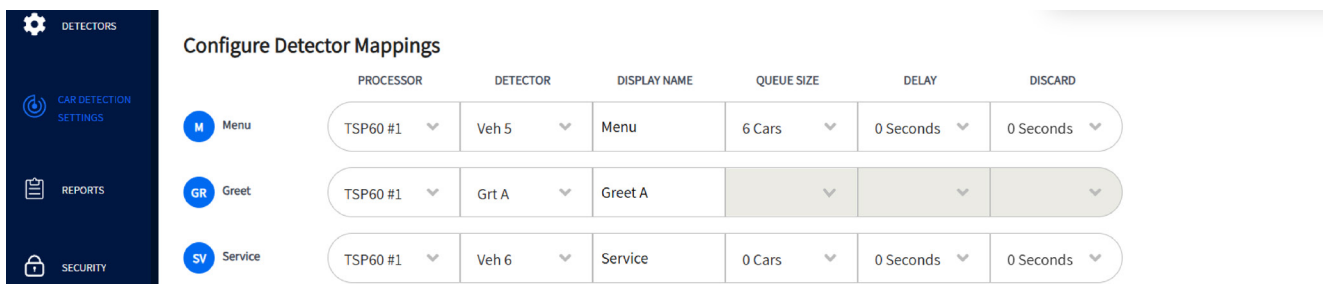

Fig. 7.4
The **Configure Detector Mappings** section allows you to map your detectors to a Vehicle Number (Veh #). This Veh # corresponds to the Veh # on the TSP and must match the actual detector connection. You can assign a descriptive name in the DISPLAY NAME field and select a QUEUE SIZE from the drop-down list. Queue Size is the number of vehicles that can fit between this detection point and the next. For example, in Fig. 7.4, Menu (M) is mapped to Veh 5, assigned the display name “Menu,” and configured with a queue size of 6 Cars. This indicates that six vehicles can fit between this detection point and the next detection point (Service). Greet does not require a queue size. Service (SV) is mapped to Veh 6 and assigned the display name “Service.” Since this is the last detector in the lane, no queue size is required beyond this point. (Pull Forward spaces are excluded).